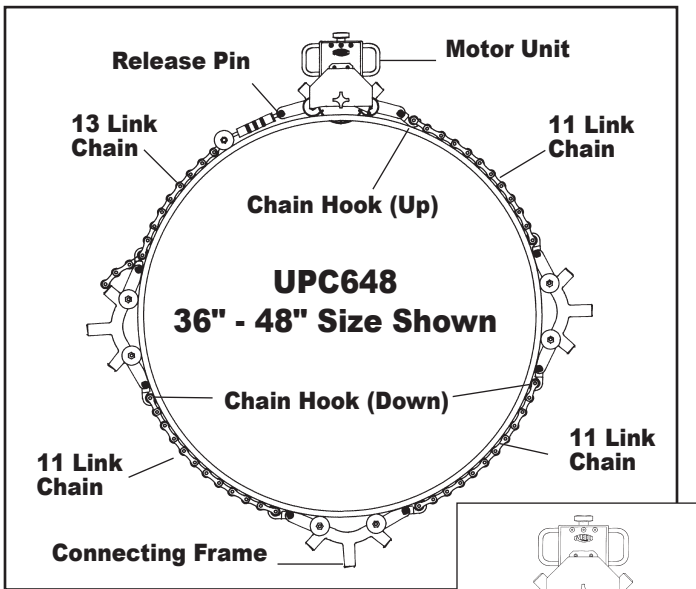

FIG. 5
3. Connect 13 link chain and turnbuckle assembly to motor unit with release pin. Extend turnbuckle to outermost position. (Fig. 5)
6. If cutting pipe where connecting frames and 11 link chains are needed, (UPC636 & UPC648) pre-assemble chain hooks to the aluminum connecting frames, with the chain hooks in the downward position. Return to Step 5, being sure to space the connecting frames equidistant to the motor unit. (Fig. 5)